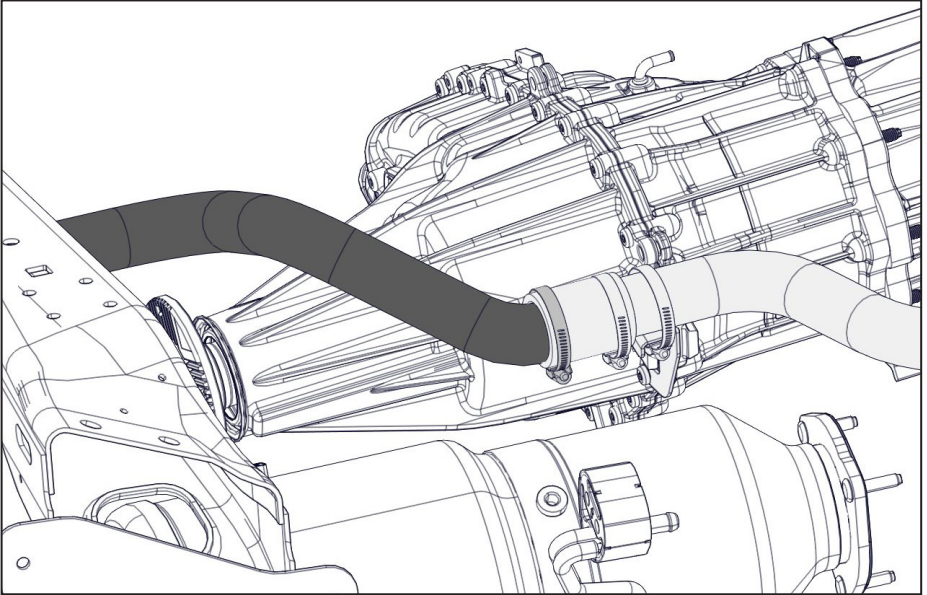

Figure 22 — Install filter side metal intake tube
- ☐ Install the filter side metal intake tube and secure it using a gear clamp (Figure 22).